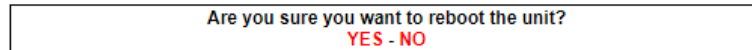

Figure 55. Configurator GUI (unit reboot dialog)
- The unit reboot dialog will be shown (Figure 55 (page 105)).